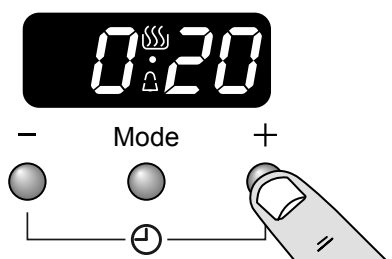

Fig. 2.18
1. Press the mode [Mode] button, until the display flashes 'dur' (Fig. 2.18).